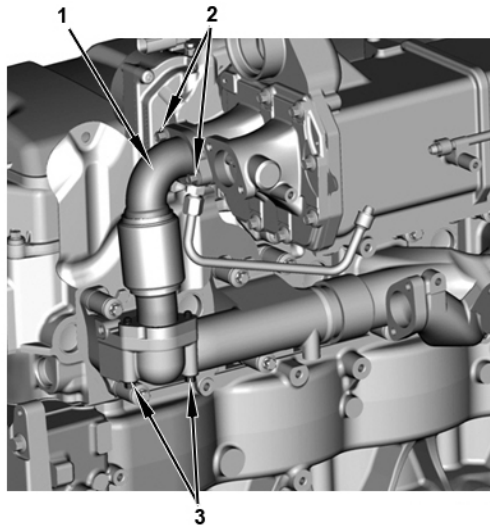

Figure 15 EGR Inlet Tube (Inside)
2. Heat-resistant bolt (4)
20. Remove EGR inlet tubes (1), remove and discard two heat-resistant bolts (2), and remove and discard two heat-resistant bolts (3) (Figure 15).